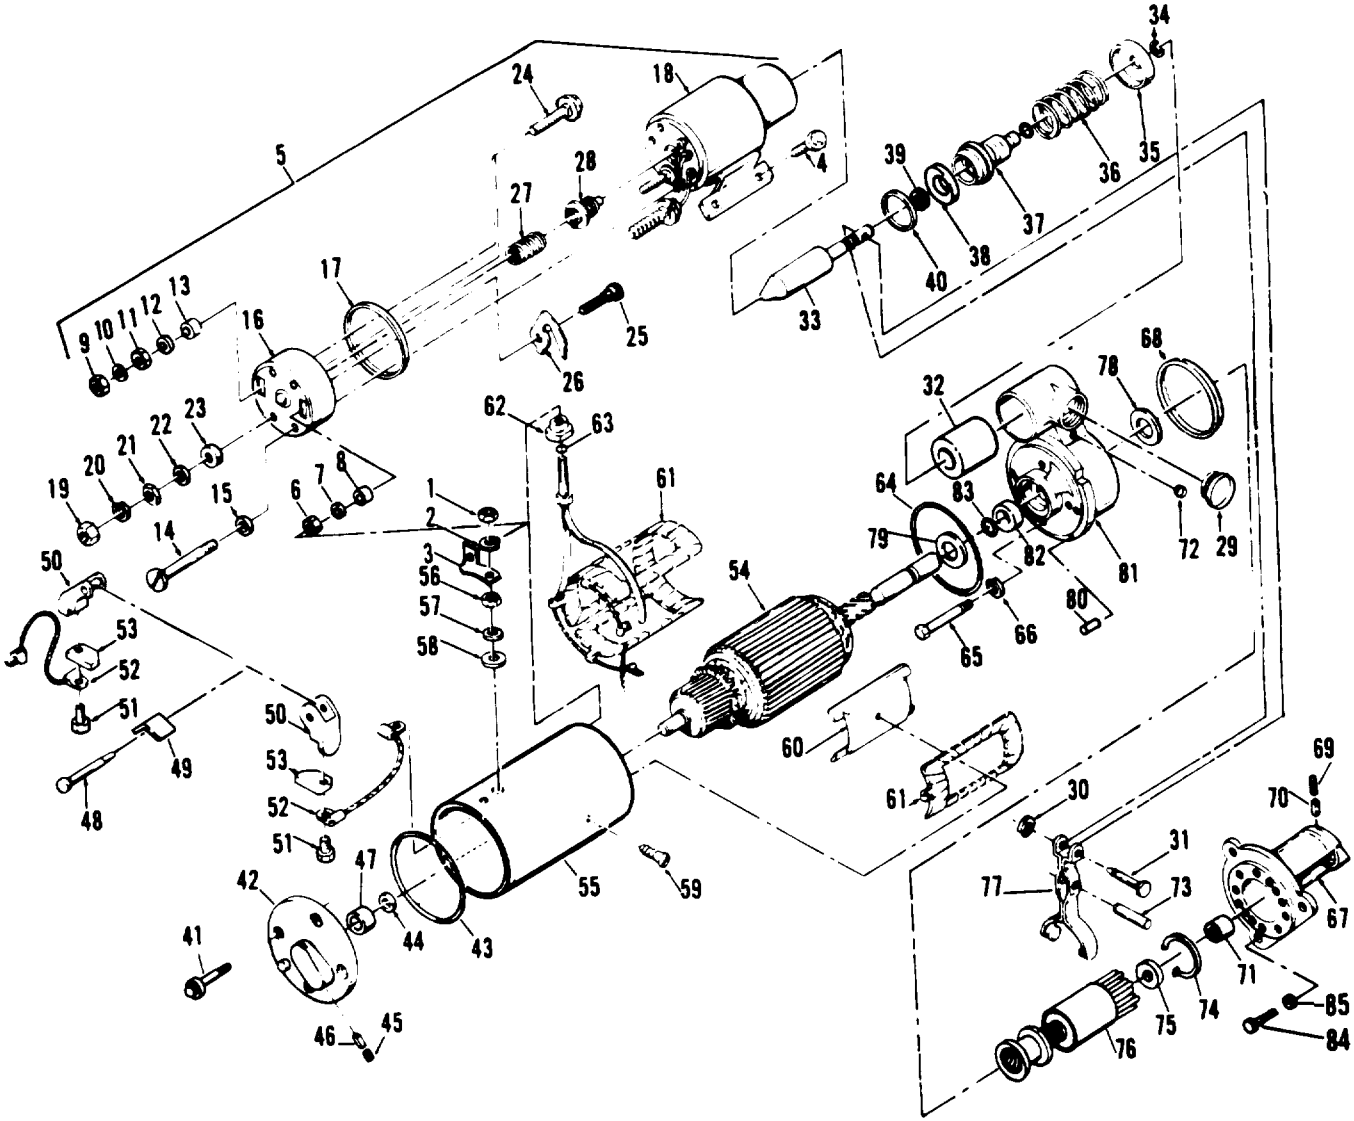

Figure 3-1. Starter Assembly, Exploded View (Sheet 1 of 2)
- (1) Remove nut (1, figure 3-1), lockwasher (2) and terminal lead (3).
- (2) Remove screws (4) to remove solenoid assembly (5) from starter assembly.
- (3) Remove nut (6), flat washer (7), and insulating washer (8).
- (4) Remove nut (9), lockwasher (10), nut (11), flat washer (12) and insulating washer (13).
- (5) Remove screws (14) and flat washers (15) to remove cover (16) and gasket (17) from frame assembly (18). Discard gasket.
- (6) Remove nuts (19), lockwashers (20), nuts (21), flat washers (22), and insulating washers (23) to remove terminal studs (24 and 25) and contact strip (26).
- (7) Remove spring (27) and contact assembly (28).
- (8) Remove plug (29), retaining ring (30), pin (31) and boot clamp (32) to remove plunger (33).
- (9) Remove retaining ring (34) to remove spring retainer (35), spring (36), boot (37), spring retainer (38), washer (39), and retaining ring (40) from plunger (33).
- (10) Remove bolts (41) to remove commutator end frame (42), packing (43) and spacer washer (44).
- (11) Remove plug (45) and oil wick (46).